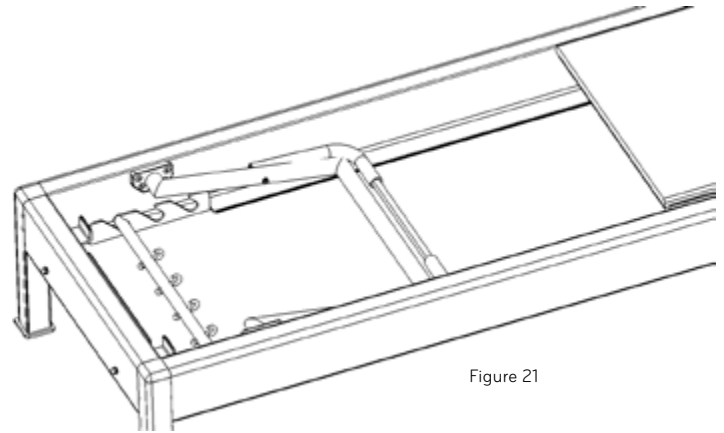

Figure 21
4. Lay the footbar flat on the inside of the frame as shown in Figure 21. If using the wooden gear stopper, remove this so the footbar can lay lower in the frame.